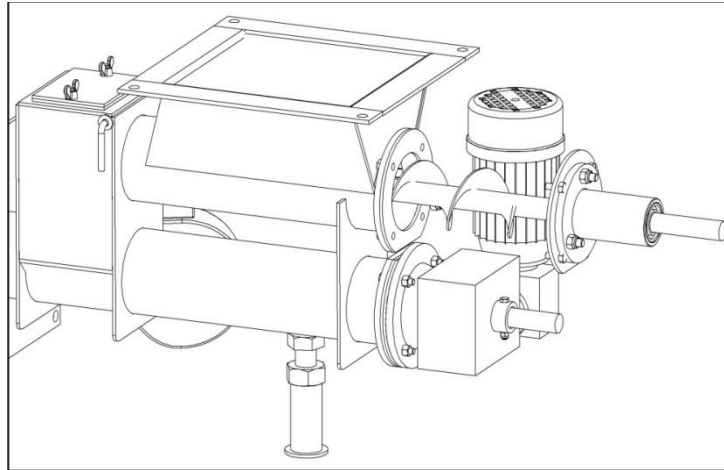

Fig 16. Removing the upper axis
- Remove the whole feeder together with the bearings and supporting disk (see Fig 16).